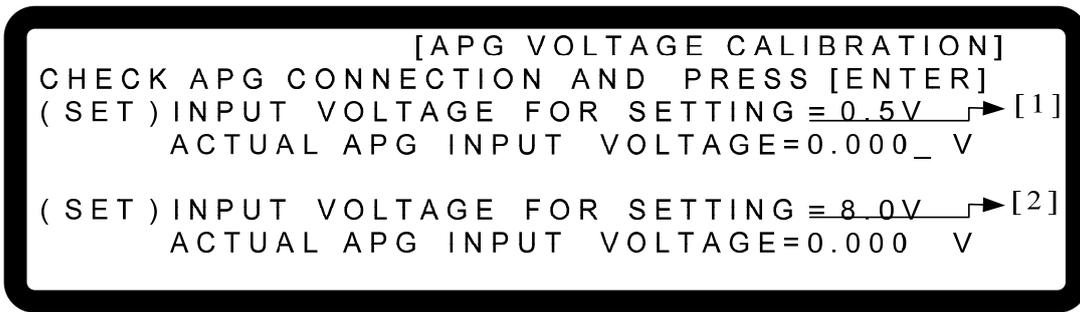

Figure 3-113
4. It will ask the user to input about 0.5V voltage signal (Pin 4). The cursor stops at position [1] as Figure 3-113 shows after pressed "**ENTER**" for the above step. Adjust the Power Supply to $0.5V \pm 0.2V$ and use DVM1 to measure the reading of Power Supply. Input the voltage read by DVM1 to position [1] and press "**ENTER**" to confirm.
5. Press “” again will ask the user to input about 8.0V voltage signal (Pin 4). The cursor stops at position [2] as Figure 3-113 shows after pressed “”. Adjust the Power Supply to 8V±0.2V and use DVM1 to measure the reading of Power Supply. Input the voltage read by DVM1 to position [2] and press “” to confirm.